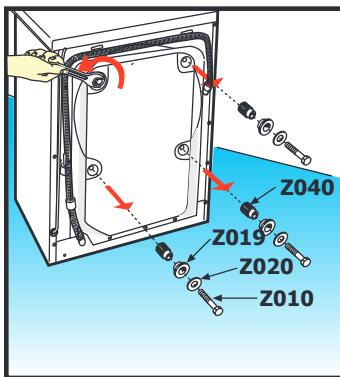

Fig. 1
- Using a 10 mm Allen wrench, remove the 4 crew bolts Z010 and corresponding washer Z020, the packing bush Z019, and the packing plug Z040 (see Fig. 1).